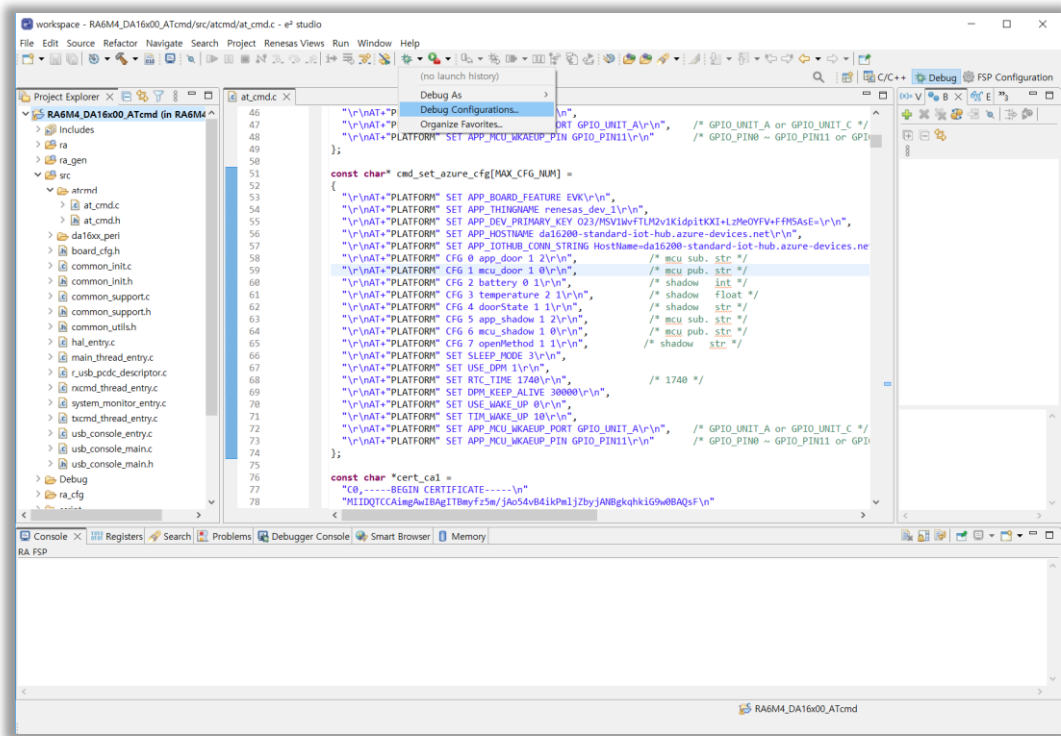

Figure 53: Debug Configurations
6. Select Debug Configurations to set the connection to the RA6M4 MCU (see Figure 53).